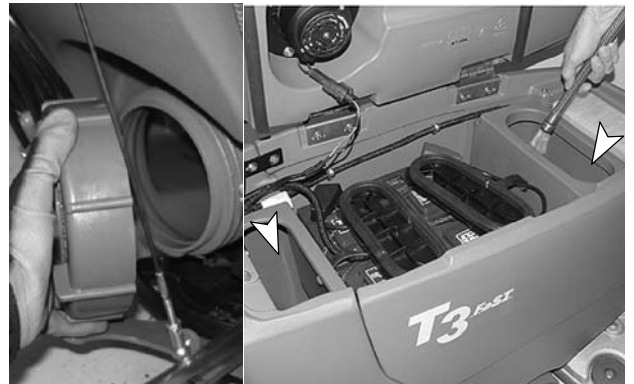

FIG. 29
2. To rinse out the solution tank, remove the clean-out cap at the rear of the machine and spray water, 60°C (140°F) maximum, directly into the two fill-ports located under the recovery tank (Figure 29).